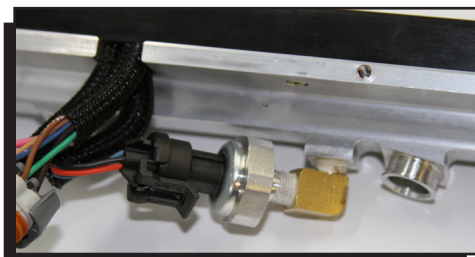

Figure 9 Fuel Pressure Sensor.
8. Plug the FPS (fuel pressure sensor) connector into the fuel pressure sensor under the fuel rail (Figure 9).